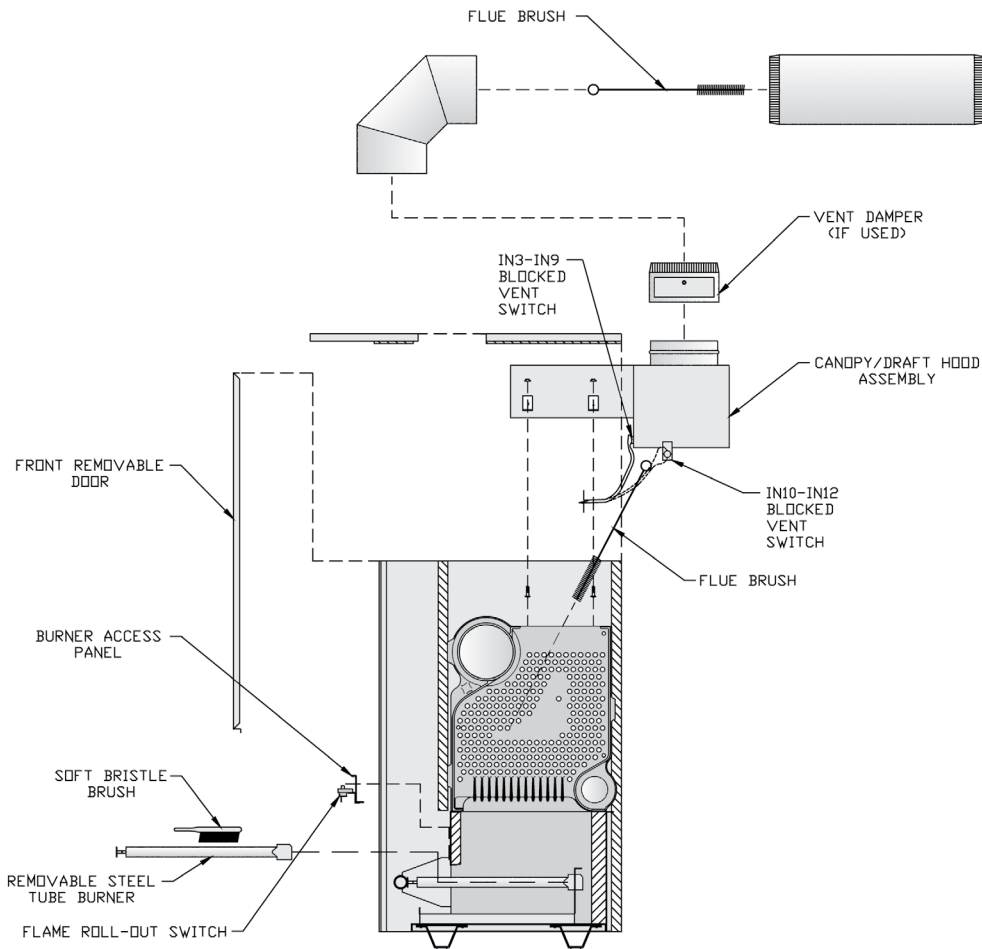

Figure 46: Boiler Flueway Cleaning
5. Thoroughly clean the flueways with flue brush. See Figure 46.
- Check burners to be sure they do not contain foreign matter or restrictions. Clean burners with a soft bristle brush, blow any dirt out with compressed air or use a vacuum cleaner. See Figure 46.